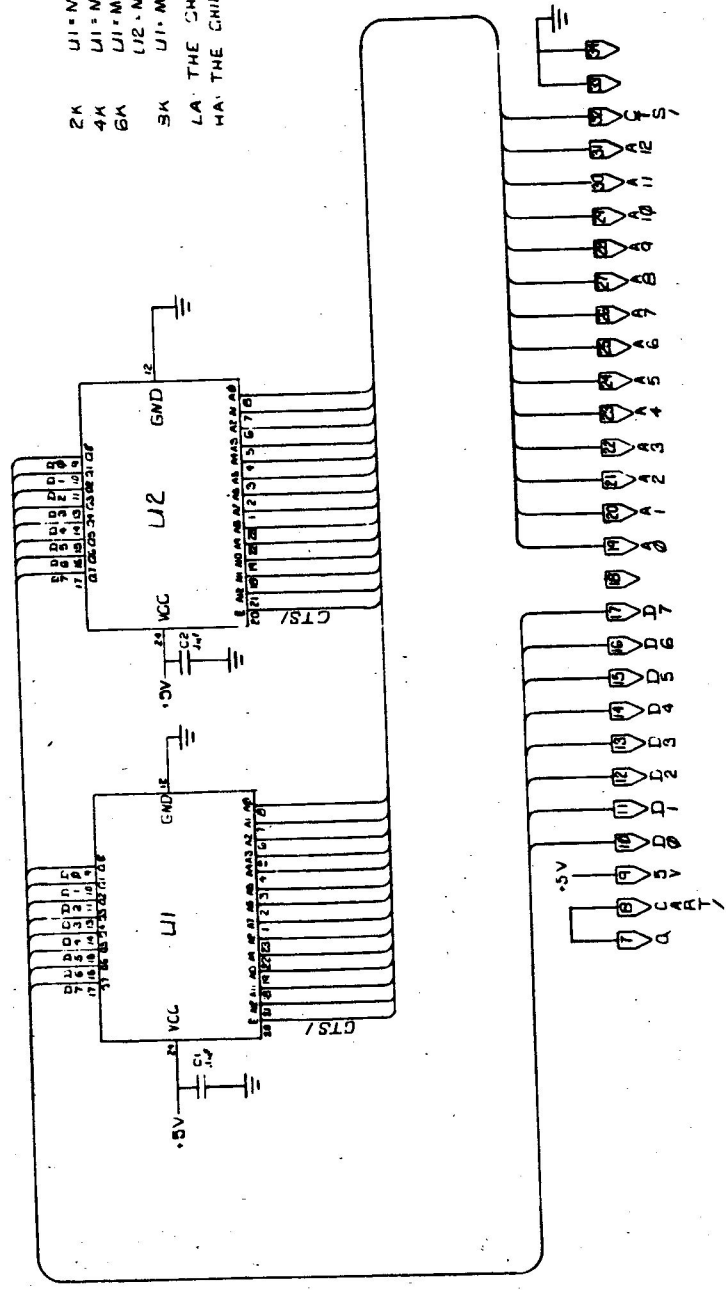

FIGURE 15. ROM CARTRIDGE BOARD SCHEMATIC
The most common usage of the cartridge connector is the ROM Cartridge. A schematic of the ROM Cartridge board is shown in Figure 15. In operation, U1 would be a 16K, 32K, or 64K ROM, and U2 might be a 16K or 32K ROM (the total of U1 and U2 must not be greater than 64K). For cartridge detection, the clock signal (Q) is shorted to the cartridge interrupt pin. This generates an interrupt anytime the cartridge is plugged in and forces the computer to jump to the program in ROM.